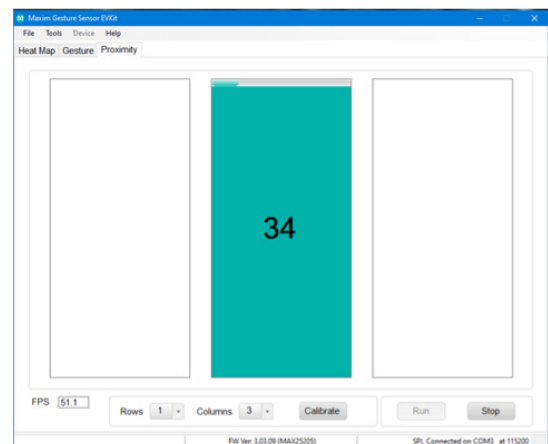

Figure 4. Linger to Click Gesture
**Figure 4** shows the linger to click function. When the hand stays steady for two seconds as shown by the upper count down bar, a linger to click event fires. The "34" represents percent of maximum signal, measured in 1% increments. 100 percentage represents the highest signal level or closest distance. This is useful in measuring the rough position of the hand, near or far. The MAX25205 supports a 1 x 3 row column region while the MAX25405 supports a 2 x 3 row column region.